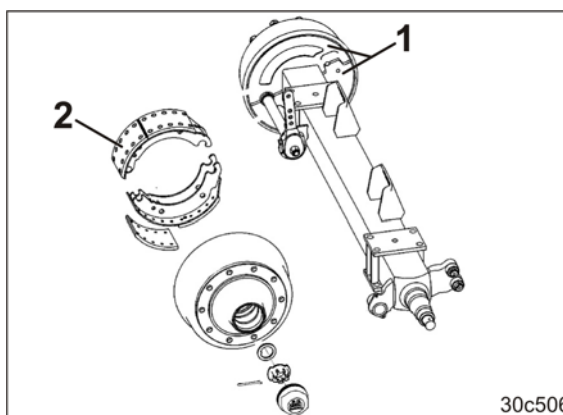

Fig. 289
Penetrating dirt may clog the brake linings (Fig. 289/2), which considerably reduces the braking power.
1. Unscrew the two cover plates (Fig. 289/1) on the inside of the brake drum.